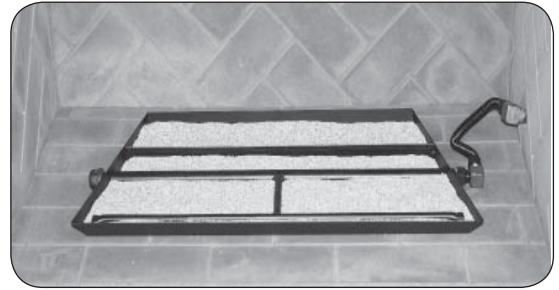

Fig. 15-1 Place sand
1. Fill the burner pan with the supplied bag of sand (see Fig. 15-1).